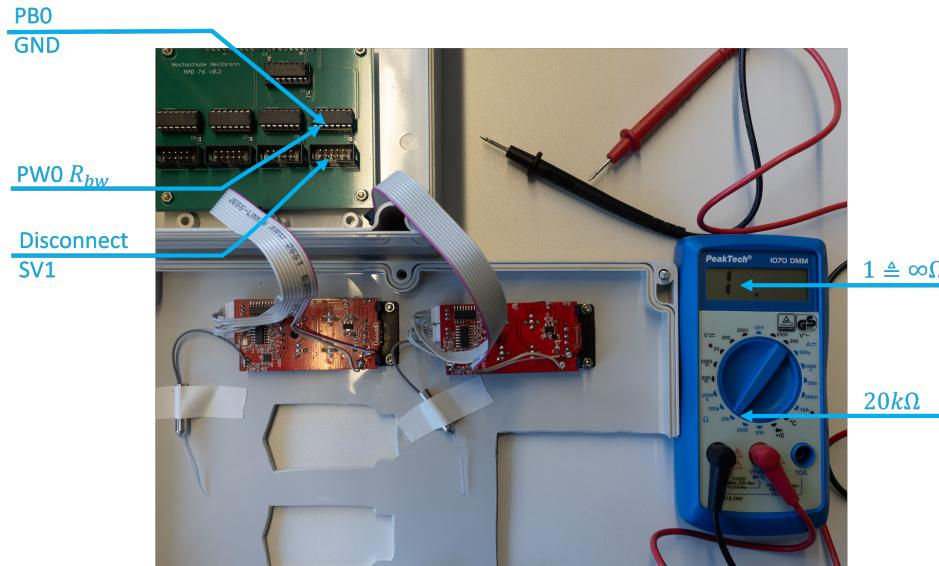

Figure 4: Exercise 1: Measure  $R_{bw}$  with a multimeter
C.4.4.1 Measure the resistance values  $R_{bw}$  of the digital potis of RC 1 with a multimeter (see Figure 4)